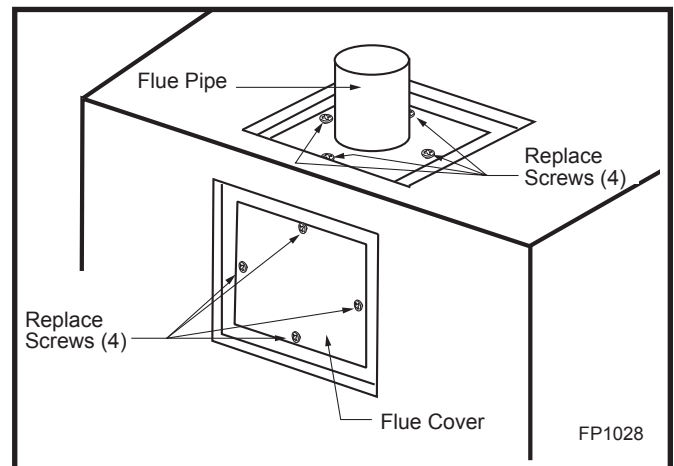

Fig. 12 Replacing flue cover and flue pipe.
5. Secure flue cover to back of flue outlet. Be sure to replace gasket. (Fig. 12)
6. Install flue pipe and gasket removed in step 4 to top of unit with four (4) screws. Be sure to replace gasket. (Fig. 12)